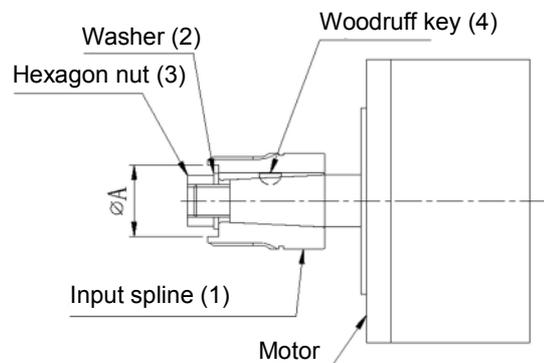

Fig. 5-8
Step 3 • Place the washer (2) into the motor shaft, and then tighten the hexagon nut (3).
- Using a thread-locking sealant for the screws, lock the hexagon nut (3).
- For the shape shown in Fig. 5-8, use the washer (2) and hexagon nut (3) with outer diameters of ϕA or smaller. (For ϕA , refer to the separately provided “Outer dimensions” drawings and specification sheet.)